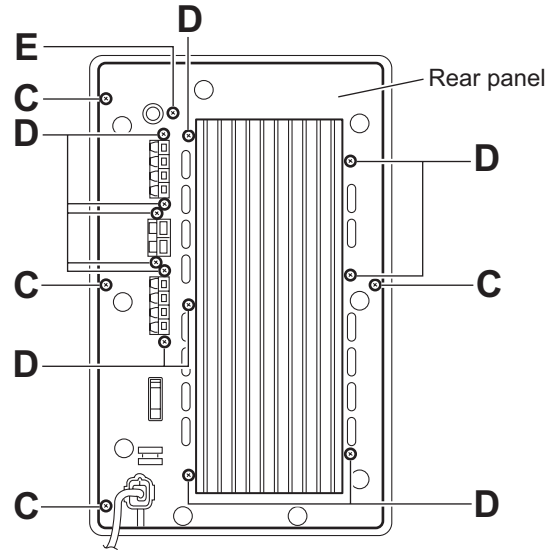

Fig.3
3.3.2 Removing the rear panel (See Fig.3)